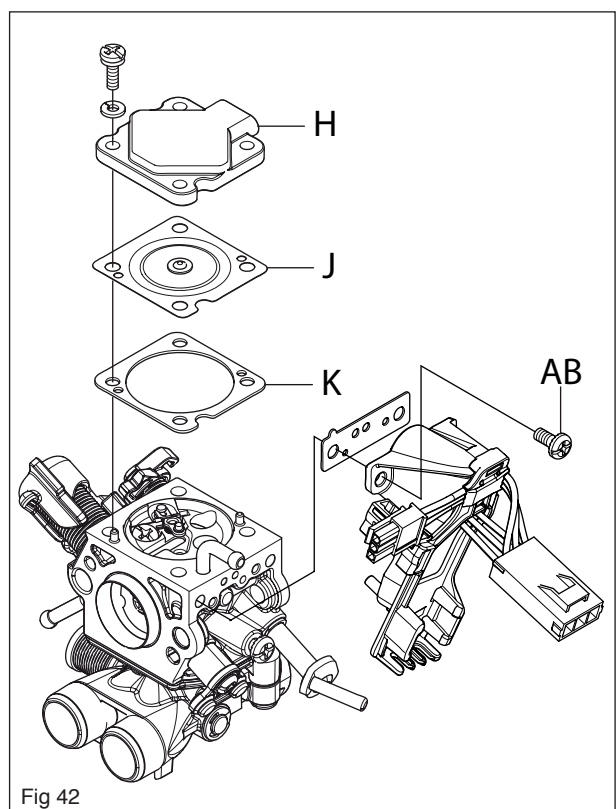

Fig 42
7. Fit gasket K, control membrane J and pump cover H. See figure 42.